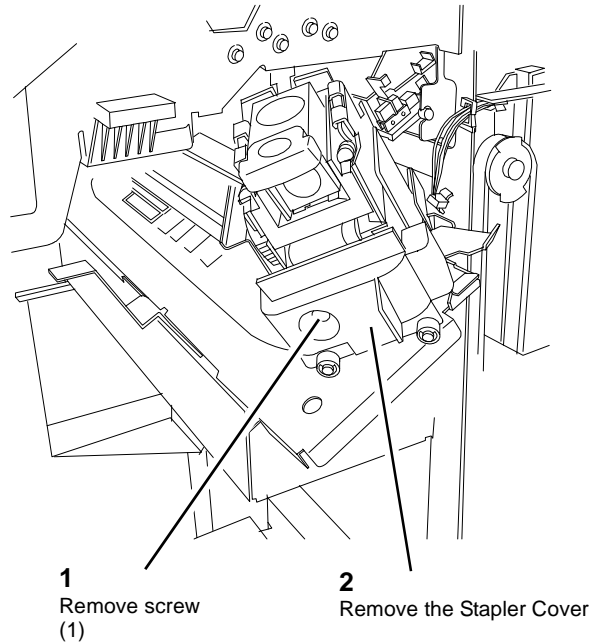

Figure 1 Removing the Stapler Cover
4. Remove Stapler Cover (Figure 1).